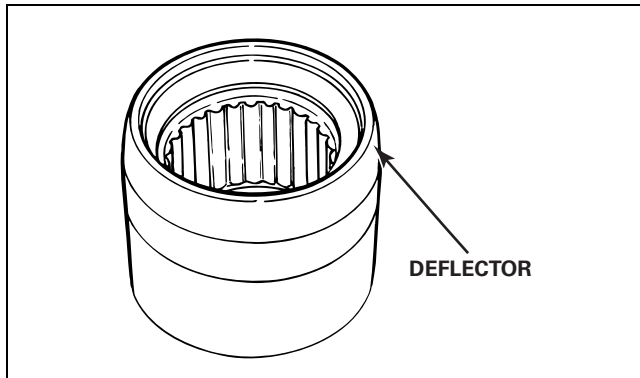

Figure 8.27
- Verify that the plastic deflectors are attached to the bushings. Figure 8.27.